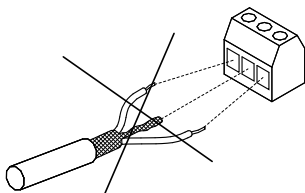

Fig. 45 Do not twist the screen ends
- Avoid terminating the screen by twisting the ends. See fig. 45. Use cable clamps or EMC screwed cable entries instead.